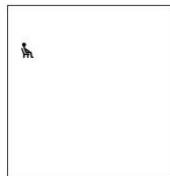

Fig. 6: Start screen
- ⇒ The blood pressure monitor switches on automatically, carries out a display test and displays the start screen. (see Fig. 6).
⇒ The display shows the start screen (Fig. 6).
⇒ The display shows the start screen(Fig. 6).
Wait until the start screen (Fig. 6) is displayed before you start the next measurement.